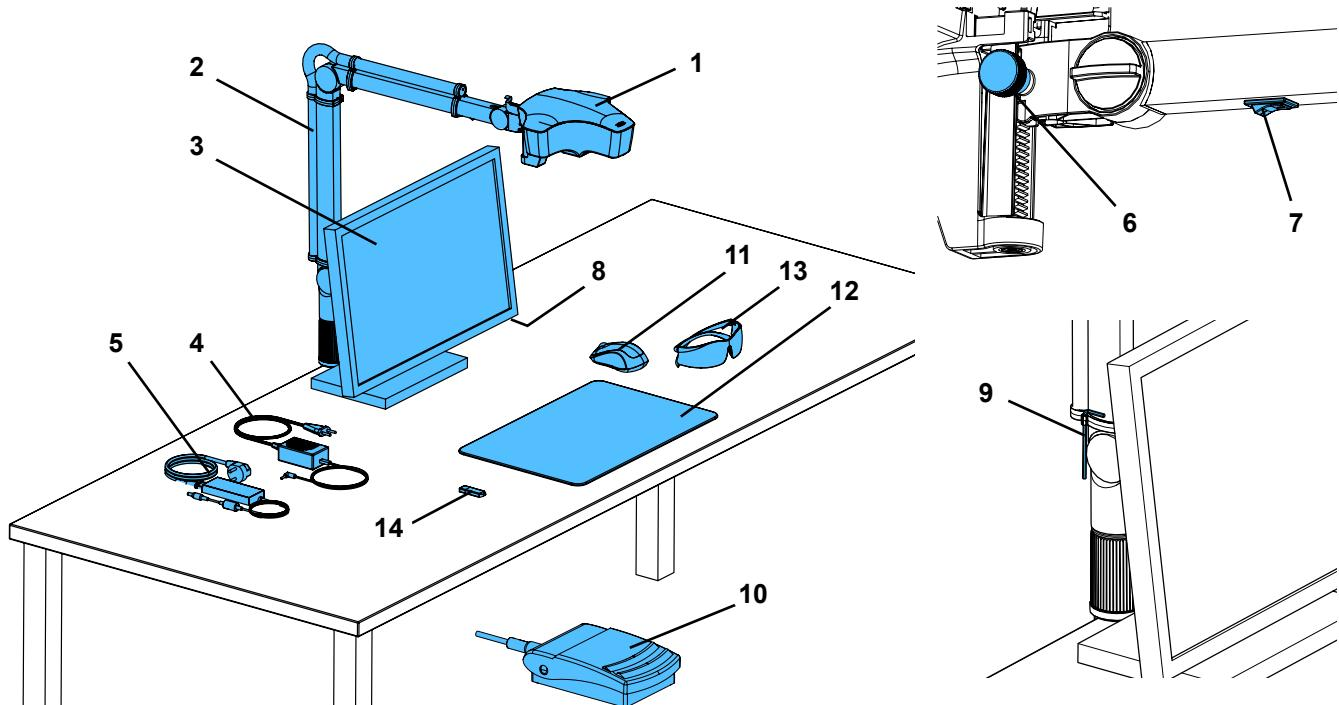

Fig. 1
- ⇒ Place the desk pad (12, Fig. 1) on the work table.
⇒ Place the mouse (11, Fig. 1) next to the desk pad..
⇒ Place the foot switch (10, Fig. 1) under the table and insert the cable for the foot switch into the foot switch
- Fasten the screw at the head (31).
- Middle clamping screw (32).
- Clamp screw on base part (33).
- Clamping screw (34) with the included tool (9, Fig. 1).
- Clamping screw (35) with the included tool (9, Fig. 1).